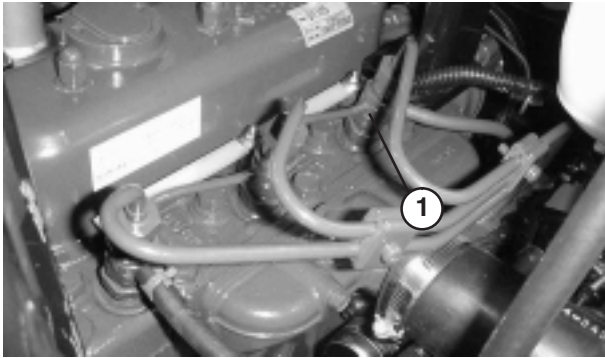

Figure 47
1. Loosen the pipe connection to the No. 1 injector nozzle and holder assembly at injection pump (Fig. 47).